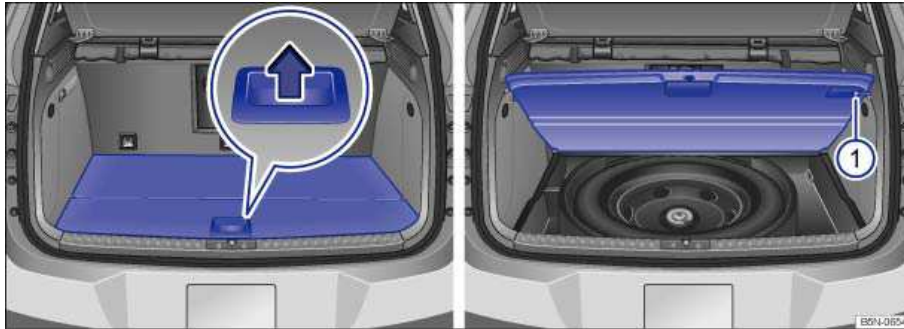

Fig. 107 In the luggage compartment: Opening and securing the variable luggage compartment floor.
- To *open*, grasp the handle and pull in the direction of the arrow and raise the luggage compartment floor completely ⇒ fig. 107.
- To *secure*, push the retaining pin ⇒ fig. 107 to the right.
- To *close*, push the retaining pin (1) to the left and guide the luggage compartment floor downwards.
There may be a foam element with the spare wheel ⇒ fig. 107 located beneath the variable luggage compartment floor. If a spare wheel is present, remove it ⇒ *Compact spare wheel* and remove the foam element from the luggage compartment.